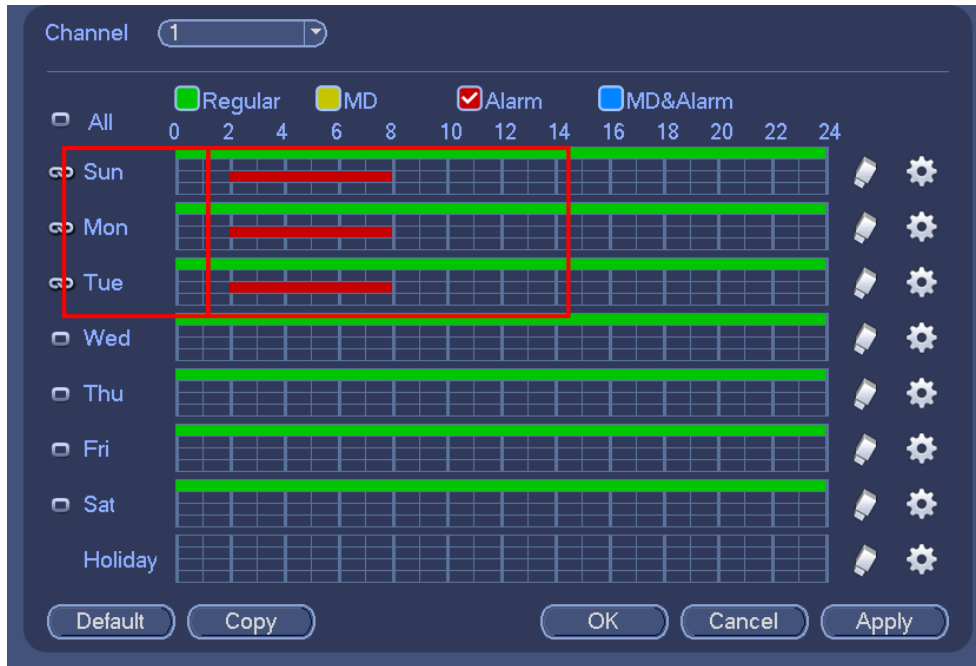

Figure 4-109
- ✧ Please draw manually to set record period. There are six periods in one day. See Figure 4-109.